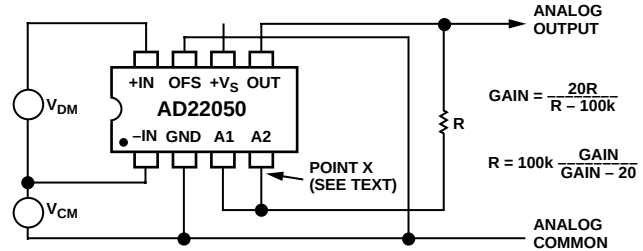
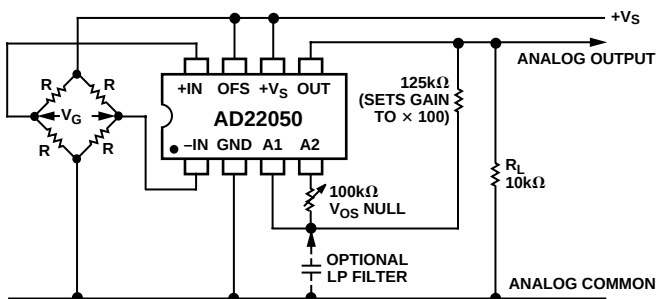

Figure 5. Achieving Gains Greater Than  $\times 20$
Figure 12. Typical Connections for a Strain Gage Interface Using the Offset Feature
**Increasing the Gain.** The gain can be raised by connecting a resistor from the output of the buffer amplifier (Pin 5) to its noninverting input (Pin 4) as shown in Figure 5. The gain is
Once again, a small offset voltage will arise from an imbalance in source resistances and the finite bias currents inherently present at the input of A2. In most applications this additional offset error (about  $130 \mu\text{V}$  at  $\times 40$ ) will be comparable with the specified offset range and will therefore introduce negligible skew. It may, however, be essentially eliminated by the addition of a resistor in series with the parallel sum of  $R$  and  $100 \text{ k}\Omega$  (i.e., at "Point X" in Figure 5) so the total series resistance is maintained at  $100 \text{ k}\Omega$ . For example, at a gain of  $\times 30$ , when  $R = 300 \text{ k}\Omega$  and the parallel sum of  $R$  and  $100 \text{ k}\Omega$  is  $75 \text{ k}\Omega$ , the padding resistor should be  $25 \text{ k}\Omega$ . A  $50 \text{ k}\Omega$  pot would provide an offset range of about  $\pm 2.25 \text{ mV}$  referred to the output, or  $\pm 75 \mu\text{V}$  referred to the attenuator input. A specific example is shown in Figure 12.
If the gain is raised using a resistor, as shown in Figure 5, the corner frequency is lowered by the same factor as the gain is raised. Thus, using a resistor of 200 k $\Omega$  (for which the gain would be doubled) the corner frequency is now 0.796 Hz- $\mu$ F, (0.039  $\mu$ F for a 20 Hz corner).
The AD22050 can be used to interface a strain gage to a subsequent process where only a single supply voltage is available. In this application, the midscale offset feature is valuable, since the output of the bridge may have either polarity. Figure 12 shows typical connections.
An ac excitation of up to  $\pm 2$  V can also be used because the common-mode range of the AD22050 extends to  $-1$  V. Assuming a full-scale bridge output ( $V_G$ ) of  $\pm 10$  mV, a gain of  $\times 100$  might be used to provide an output of  $\pm 1$  V (a full-scale range of +1.5 V to +3.5 V). This gain is achieved using the method discussed in connection with Figure 5. Note that the gain-setting resistor does not affect the accuracy of the midscale offset. (However, if the gain were lowered, using a resistor to ground, this offset would no longer be accurate.) A  $V_{OS}$  nulling pot is included for illustrative purposes. One-, two- and three-pole filtering can also be implemented, as discussed in the Low-Pass Filtering section.